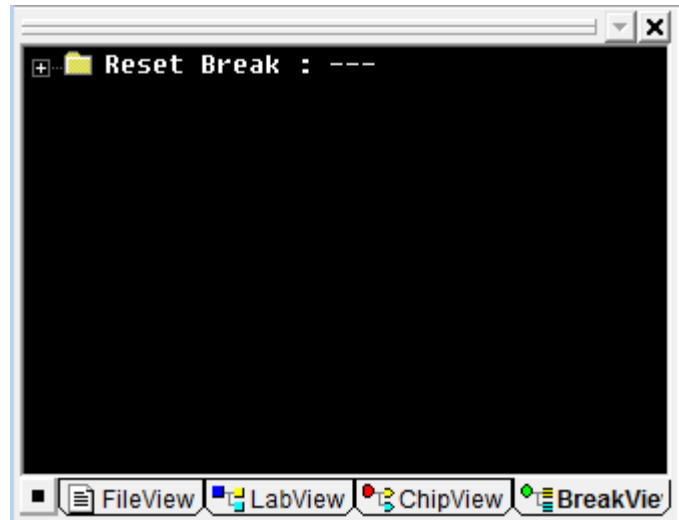

Fig.4-18. Break View window information
1) In the Break View window, you can enable or disable various Breaks of ICE. As shown in figure 4-18.